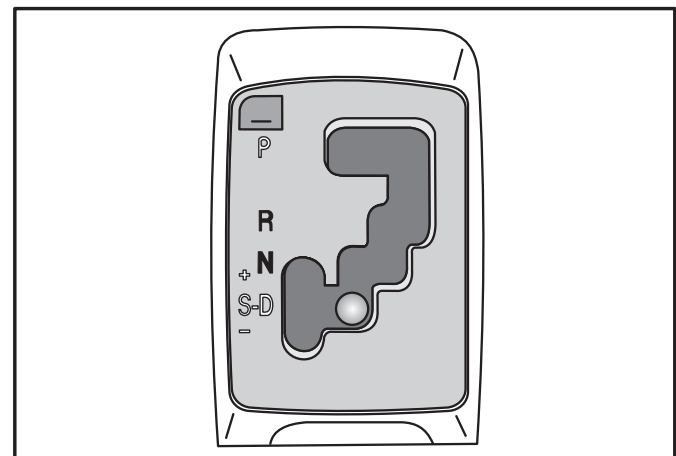

Figure 4
Once the selector lever is placed into the Drive position (Figure 4), the Engine Control Module provides an Artificial Intelligence (AI) shift control strategy.